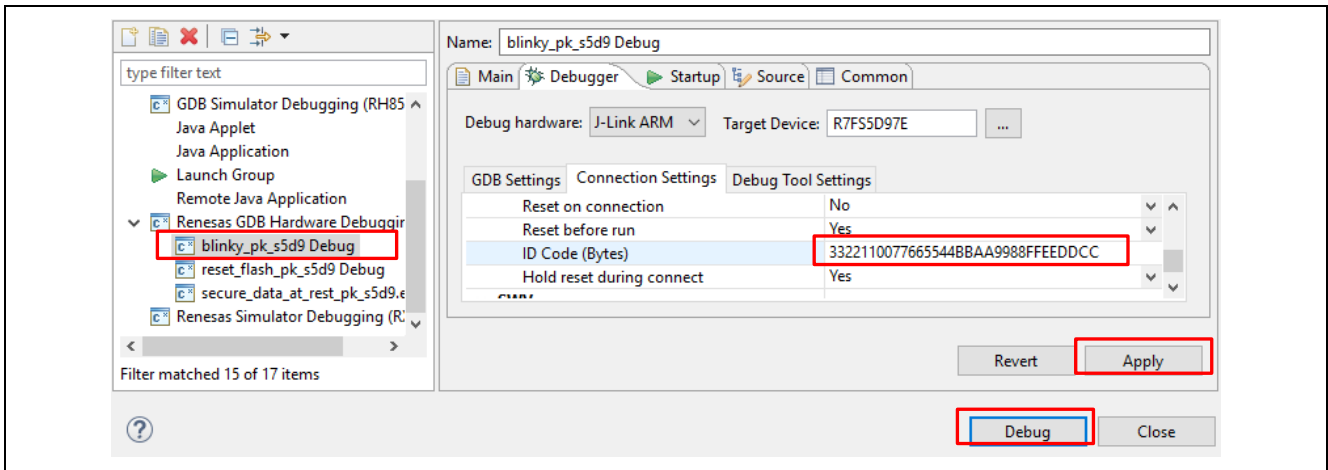

Figure 54. Setup matching ID code in debug configuration
Step 14. Reset the OSIS ID for the debugger configuration to all FFs (see Figure 54) and confirm the debugging works.